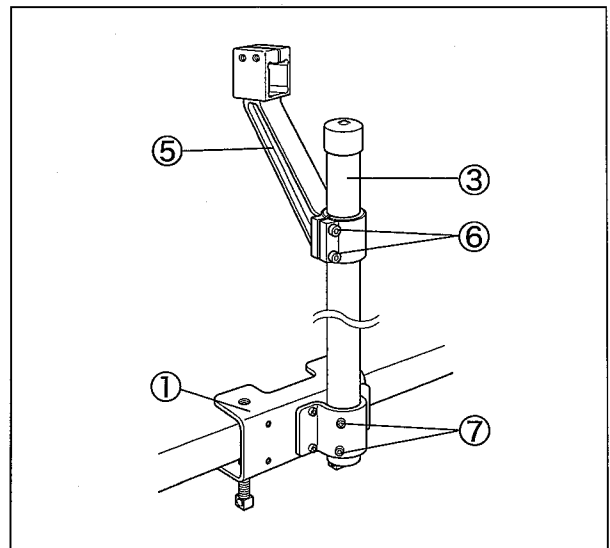

Fig. 2-2
2. Install the joint ⑤ onto the main pole ③ with the screws ⑥. (Fig. 2-2)
3. Install the main pole ③ onto the clamp ① with the screws ⑦. (Fig. 2-2)